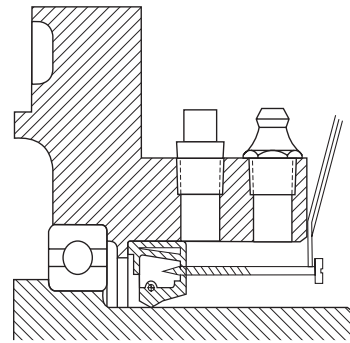

Figure 6
5. Wrap several turns of tape around the drill approximately .250" (6mm) from the drill point to prevent the drill from entering too deeply into the housing and damaging the bearing (inner seal only). Grease or magnetize the drill to help retain the chips. Drill two .125" (3mm) diameter holes in the seal case 180° apart. Control the angle of the drill as illustrated in Figure 6 to prevent damage to the cam.
6. Insert two #10 sheet metal screws of sufficient length into the seal. DO NOT drive the screw more than .250" (6mm) beyond seal face or bearing damage may occur. Use a claw type pry bar under the screw head as shown in Figure 6, and pry the seal out. Remove all chips. Use a magnet to remove the chips that fall into the bore. Remove Permatex sealant from housing bore. Inspect the seal cavity and remove any debris or metal chips. Thoroughly clean the seal cavity with clean non-flammable solvent.